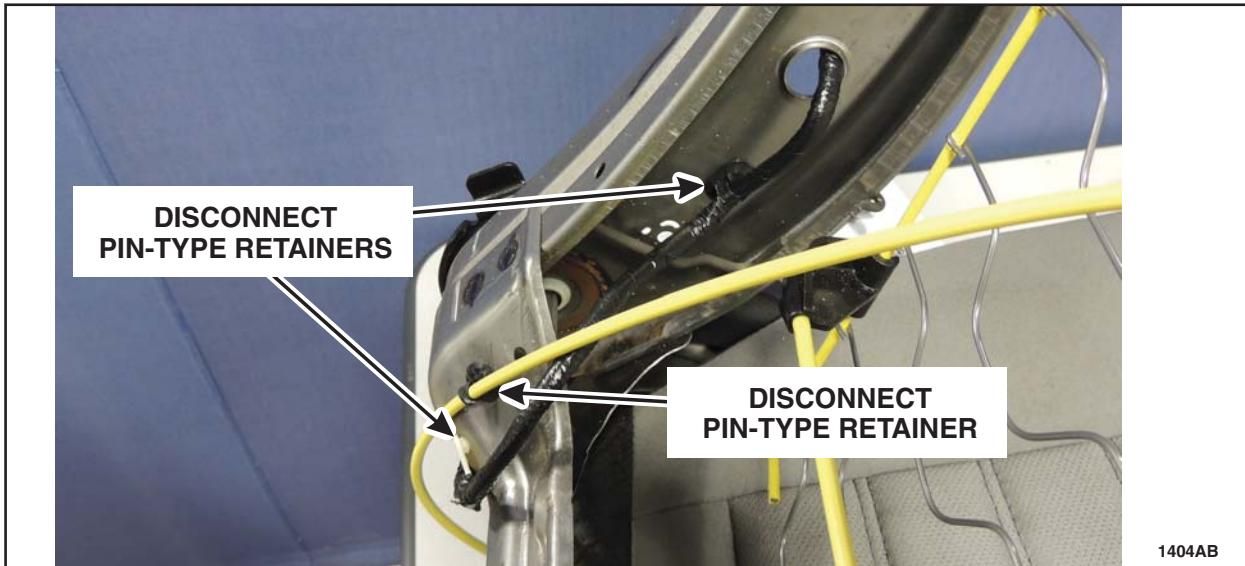

FIGURE 13
15. If equipped, disconnect the wiring harness and lumbar support cable pin-type retainers. See Figure 13.
5. If equipped, connect the wiring harness and lumbar support cable pin-type retainers. See Figure 13.